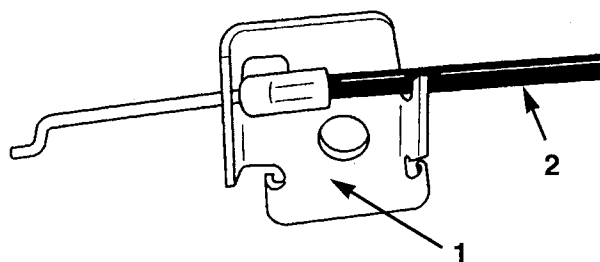

Figure 66
- C. Slide the shift cable out of the bracket (Fig. 66).
- C. Slide the shift cable into the bracket (Fig. 66).